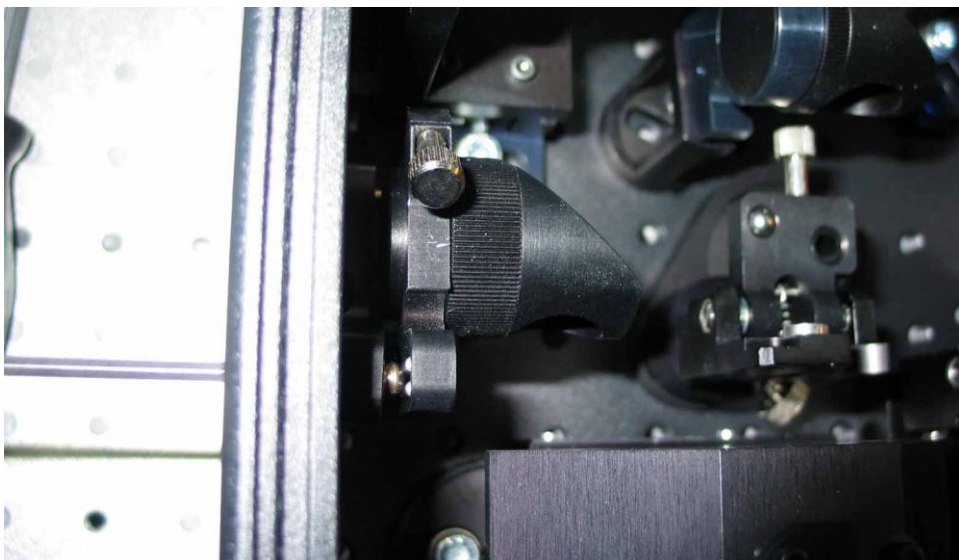

Fig.9.
- 21) *Insert before the S4 the black steel plate. Check that two beams are coincident as well as behind S2. If not try to adjust the screws of S2 to make two beams collinear (pass a wrench through the holes) (Fig.9).*